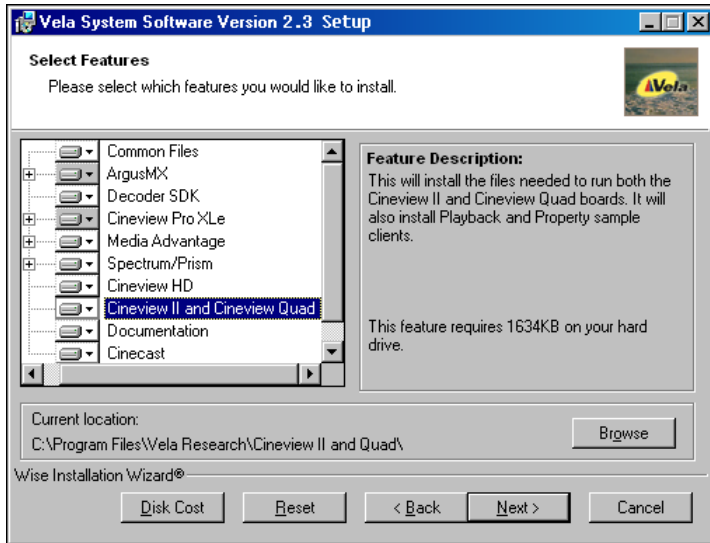

Figure 1-5. Installation Wizard Feature Select Screen
4. The "Select Features" screen appears next (Figure 1-5). Select the requested features for installation, including the CineView Quad (the selection includes the CineView II name), by selecting the disk drive icon displayed before each option. Select either the "will be installed on local hard drive option" or "entire feature will be unavailable option." You may also choose to install the CineView SDK at this time if you have purchased it. Note that some options may not be currently supported. Common files will be installed when needed. Click Next.